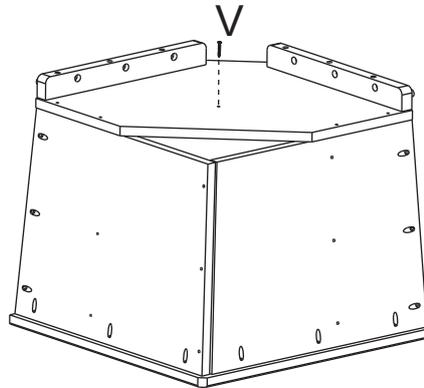

Fig. 17b
17. Slide the Corner Back (E) so that the right and left edges fit snugly against the sides of the Left Back Corner (L) and Right Back Corner (M). The top edge of the Corner Back (E) should be parallel to the top edge of the Corner Top (C). See Figure 17. Using the pre-drilled holes as guides, secure using six #8x1¼" Black Screws (V). See Figure 17a. Flip the corner seat assembly over and, using the pre-drilled hole in the bottom of the Corner Seat (D), secure with one #8x1¼" Black Screw (V). See Figure 17b.